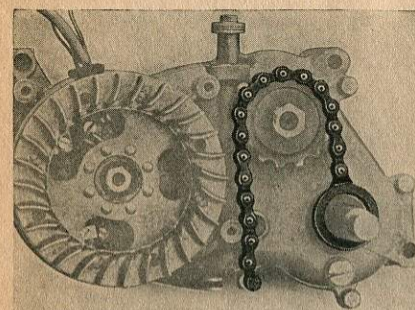

Figure 9: Attachment Chain, Part No. 093032
3. Attachment Chain for unscrewing the chain pinion nut (Fig. 9).